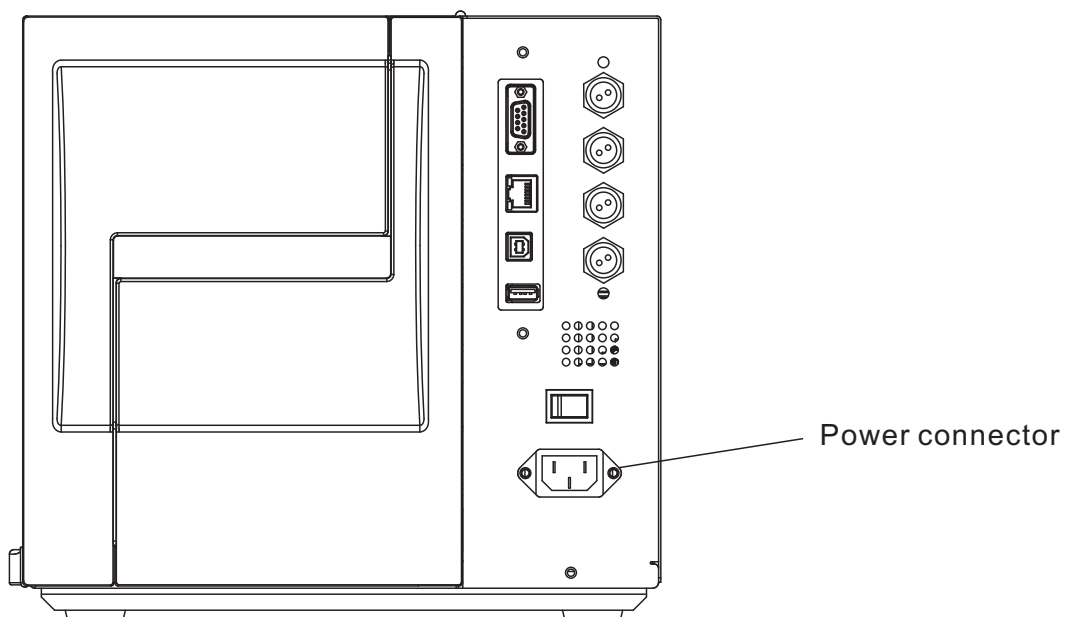

Figure 4
2. As shown in Figure 4, insert the power adapter plug into the power socket at the back of the printer.